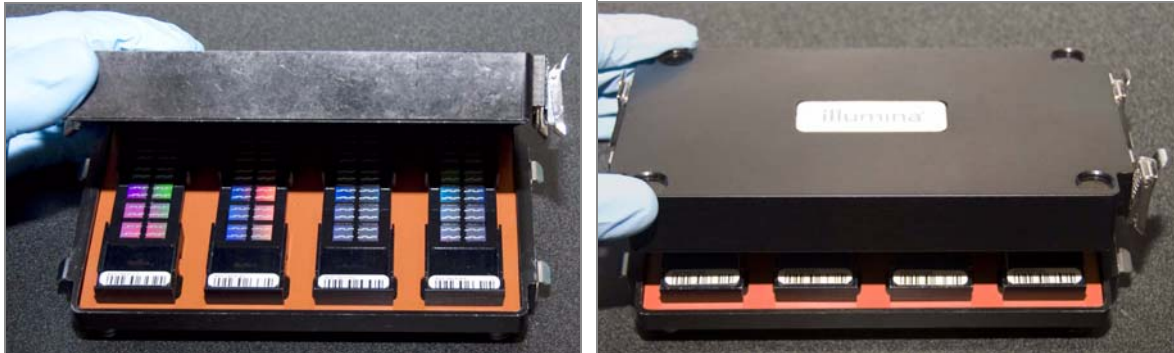

Figure 43 Securing Hyb Chamber Lid
2. Place the back side of the lid onto the Hyb Chamber and then slowly bring down the front end to avoid dislodging the Hyb Chamber inserts (Figure 43).